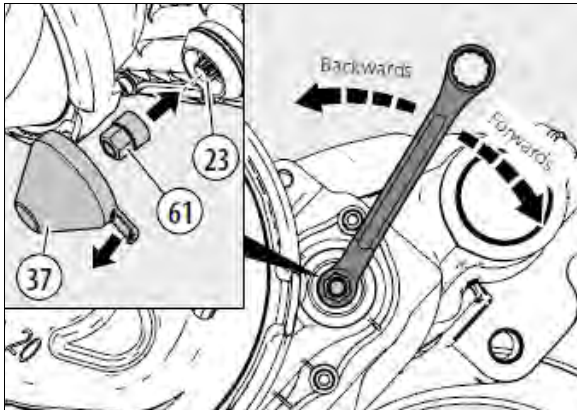

FIGURE 38: REMOVE CAP, INSERT NEW BRAKE PADS, SET THE STARTING GAP
7. Pull off the adjuster cap (37) using the tag, taking care not to lose the shear adapter (61) (see Figure 38).